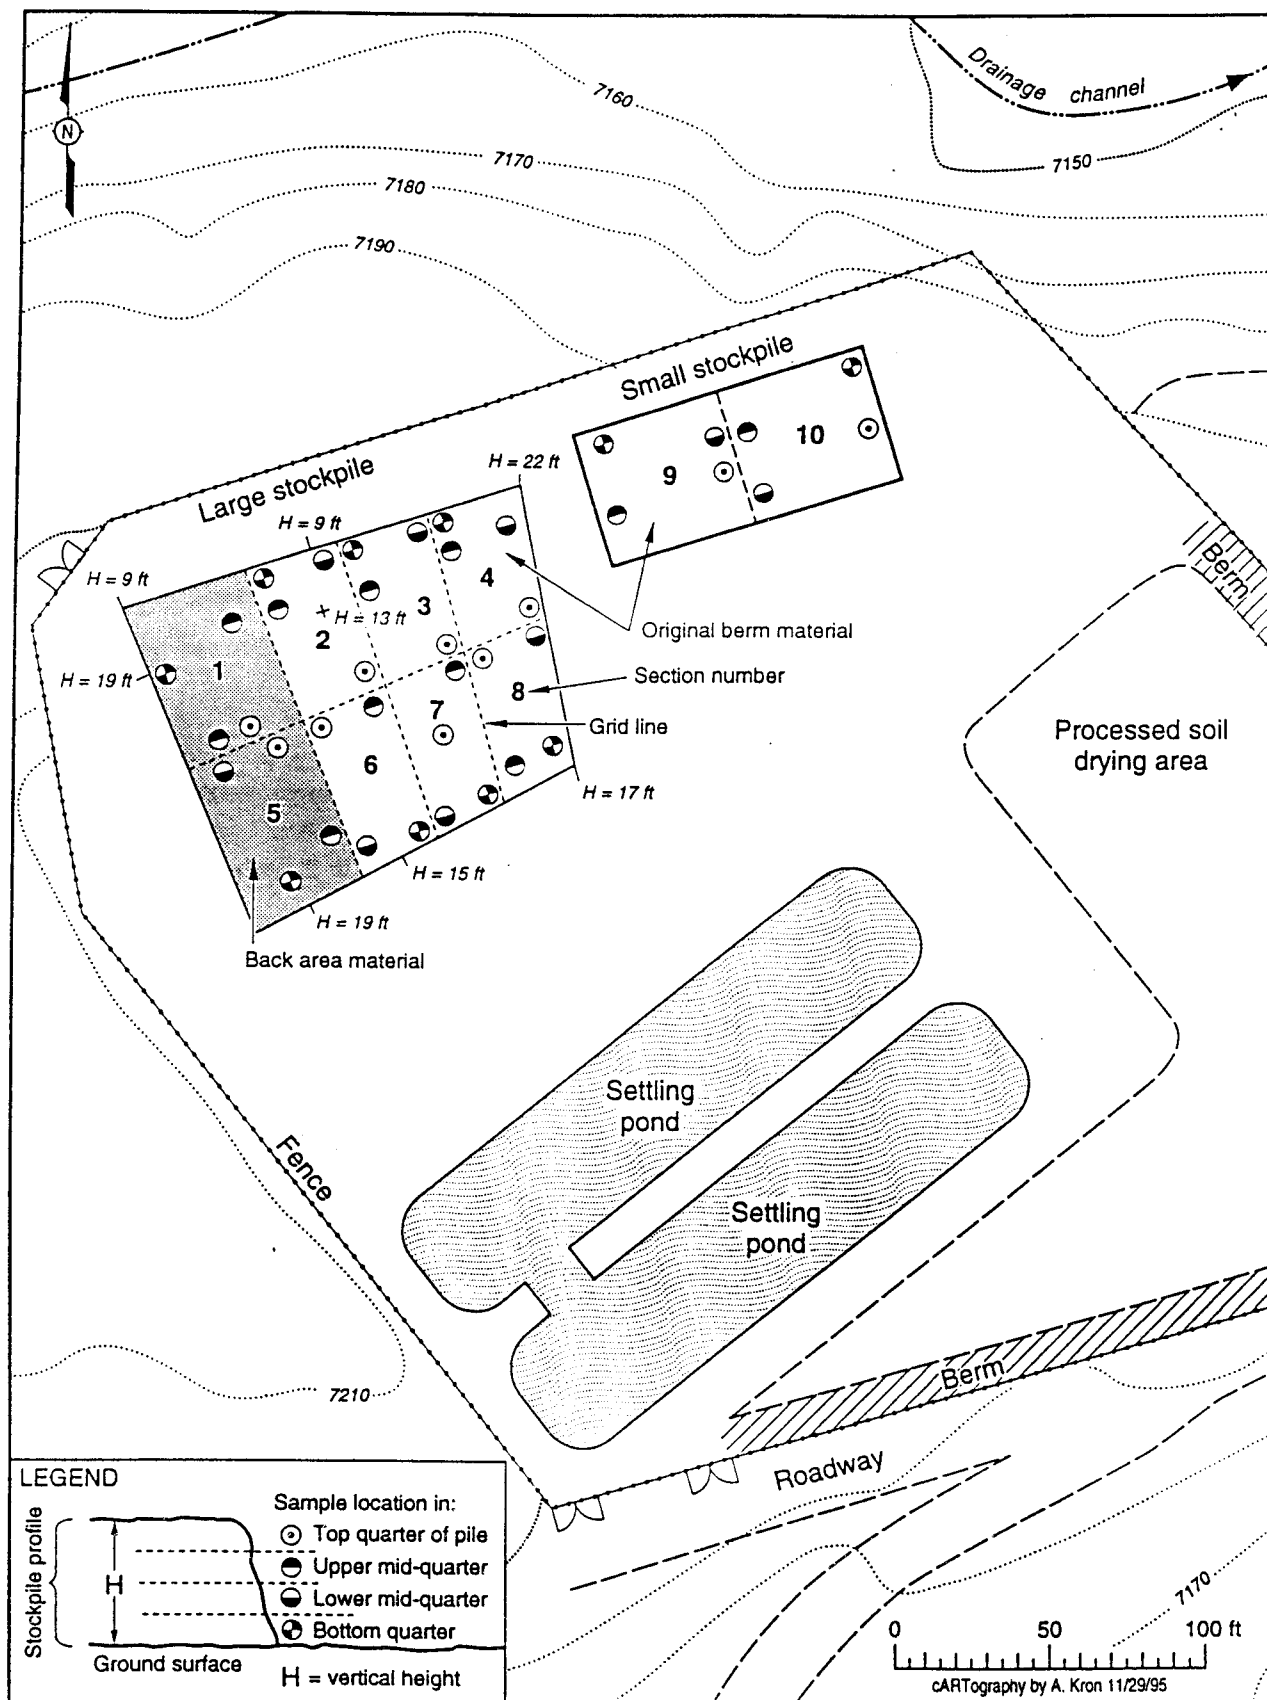

Figure 1. Soil stockpile characterization sample locations, SWMU 0-016.
The following table presents a list of sample locations, their respective height (H) above the ground surface, and the distance (D) that the hand auger was advanced into the stockpile. The actual locations are shown on Figure 1. One grab sample was collected from each of the four quadrants in each section and composited. The quadrants are designated northwest, northeast, southwest, and southeast. Each grab within a section was collected at a different depth within the pile (Figure 1). All boreholes were advanced a minimum of 1-foot into the stockpile. Samples near the bottom of the stockpile were collected by hand-augering horizontally into the side of the stockpile and others were collected by hand augering vertically into the top of the stockpile, as indicated in the list. Some sample locations within the sections deviated slightly from the Soil Stockpile Characterization Plan due to the berm configuration and the consistency of the soils. Because of the abundance of rocks and other obstacles within the stockpiles, hand-augering was very difficult and auger refusal was encountered frequently at very shallow depths. In order to access the desired depths within the stockpiles, the topography of the piles was used to obtain samples from desired locations and depths (e.g., soil samples from the bottom of the pile were collected by hand-augering horizontally into the base of the pile).